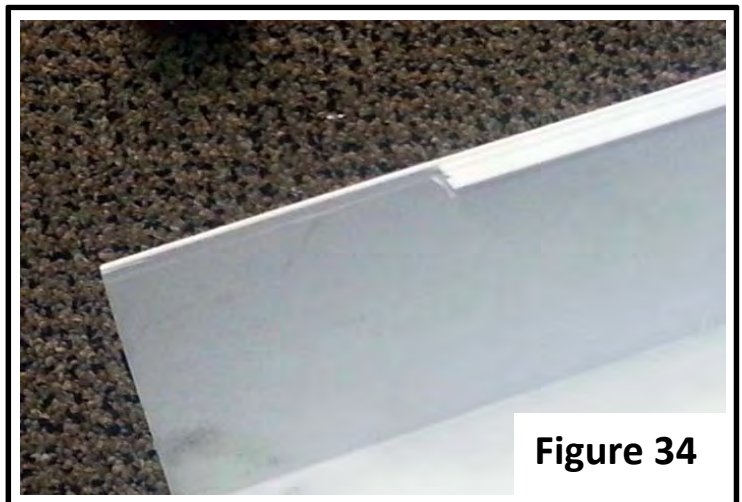

Figure 34
*** Figure 34 shows snap legs fully removed.**